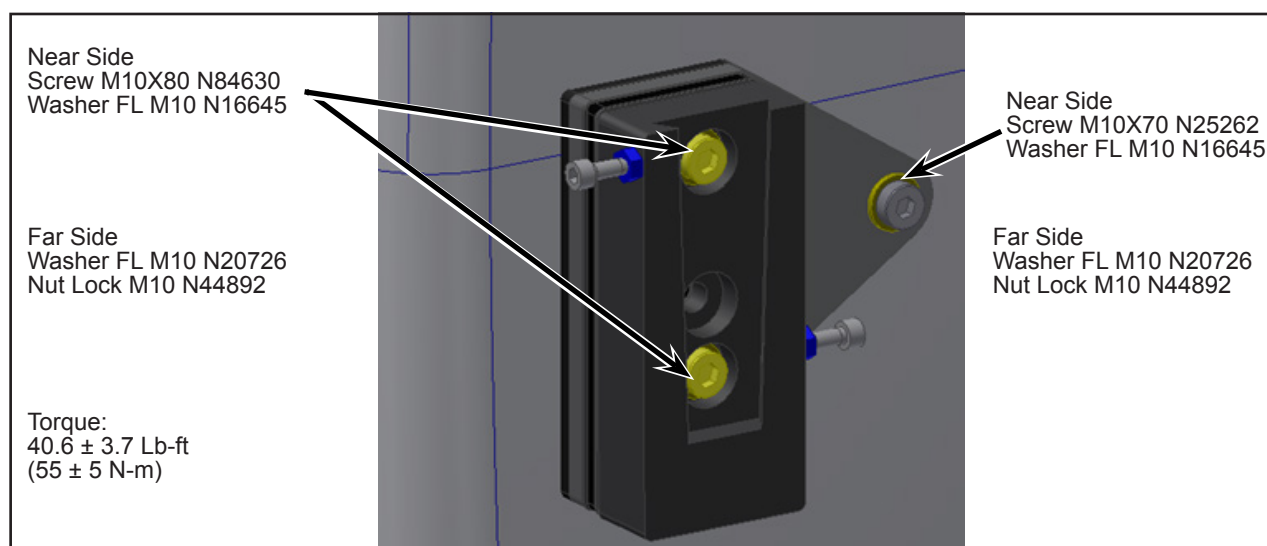

Figure 27 - Installation of Hardware
- 1.31. Install following hardware and torque as shown (see Figure 27).